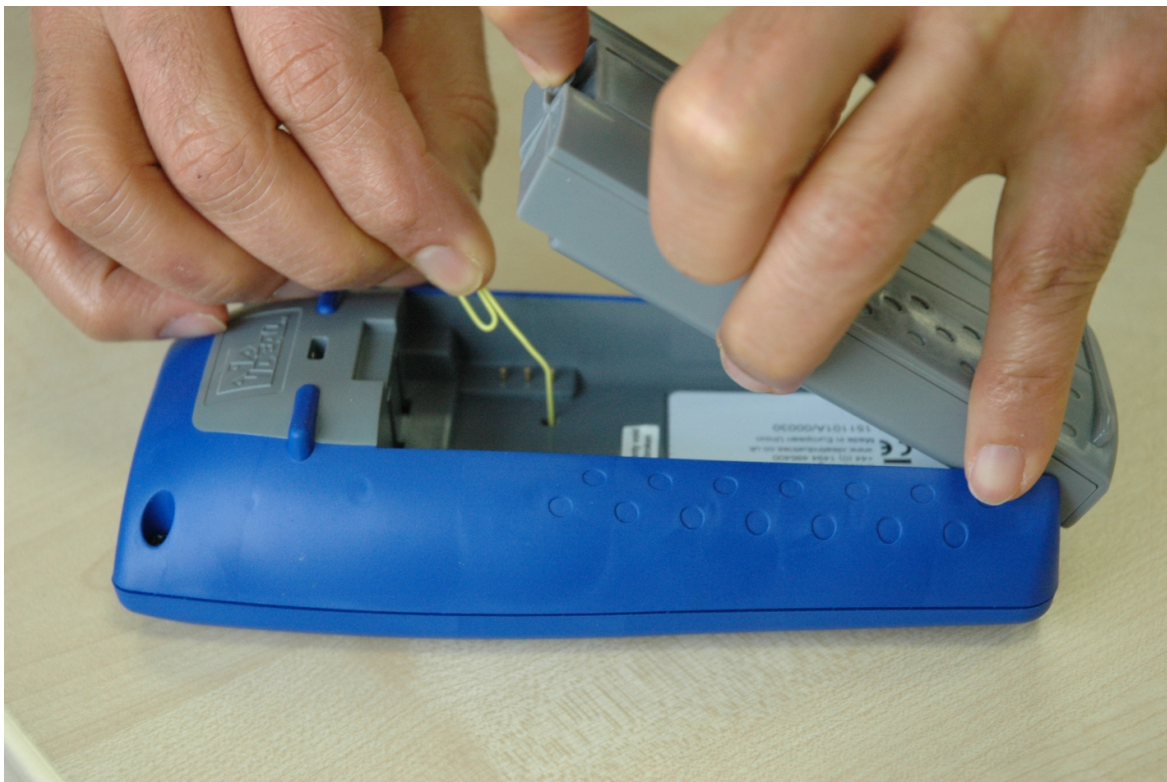

Fig 2
- Remove the power module or battery pack to access a small aperture in the NaviTEK NT (Fig 2).